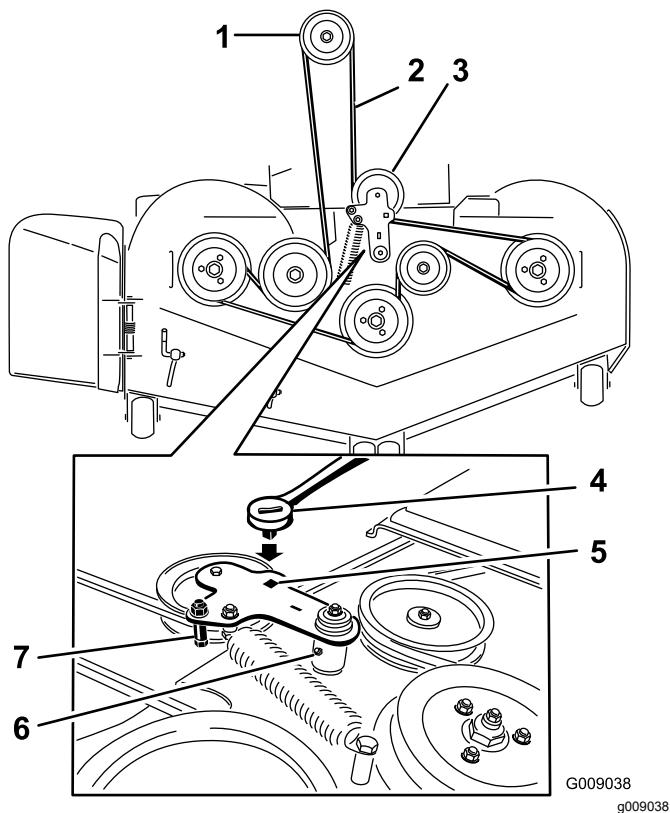

Figure 83
6. Use a ratchet in the square hole in the idler arm to remove tension on the idler spring (Figure 83).
8. Remove the belt guide on the spring-loaded idler arm (Figure 83).
10. Install the new belt around the mower pulleys and the clutch pulley under the engine (Figure 83).
11. Install the belt guide on the idler arm (Figure 83).
12. Using the ratchet in the square hole, install the idler spring (Figure 83).